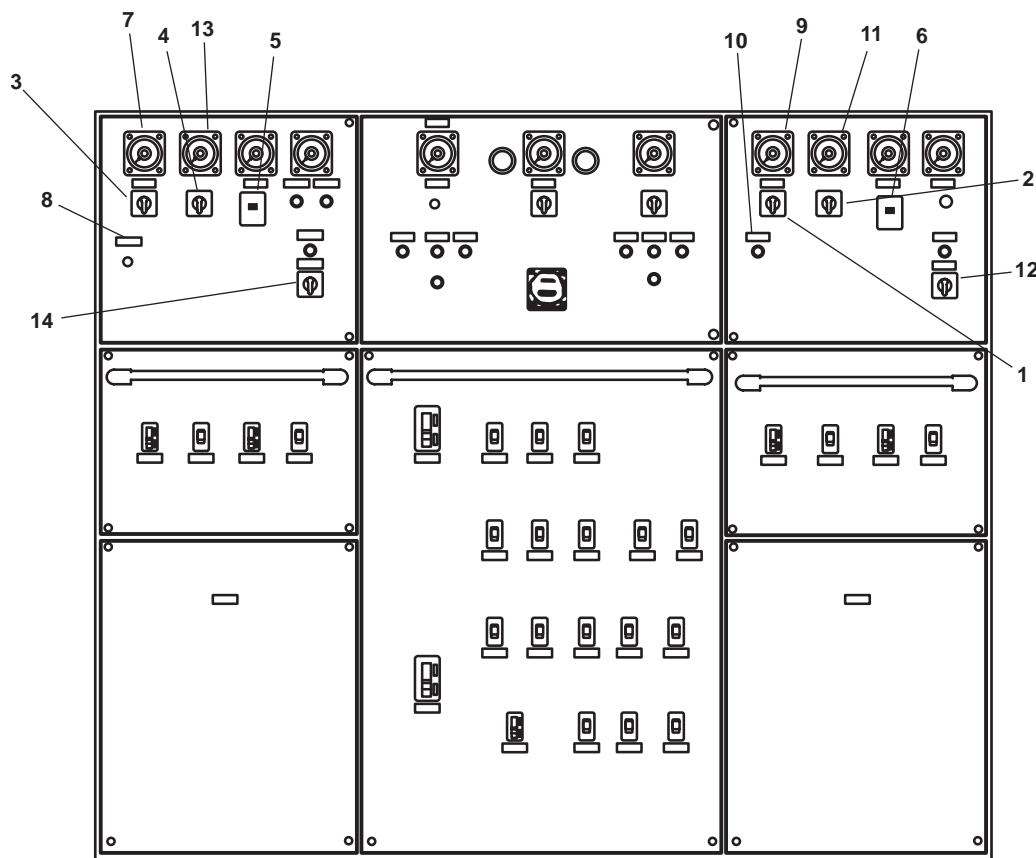

Figure 1. EOS Main Switchboard
- a. Set the BUS GEN. 1 switch (figure 1, item 1) to 1-2, 2-3, or 3-1 position.
- b. Set the AC AMMETER switch (figure 1, item 2) to 1, 2, or 3 position.
- c. Set the BUS GEN. 2 switch (figure 1, item 3) to 1-2, 2-3, or 3-1 position.
- d. Set the AC AMMETER switch (figure 1, item 4) to 1, 2, or 3 position.
- e. Increase the load on SSDG 2 by positioning GEN 2 GOVERNOR RAISE LOWER control (figure 1, item 5) towards the RAISE position and GEN 1 GOVERNOR RAISE LOWER control (figure 1, item 6) towards LOWER position.
- f. Adjust voltage shown on AC VOLTS (figure 1, item 7) as necessary using GEN 2 AUTO VOLT RHEO. control (figure 1, item 8) to maintain 440 volts.
- g. Adjust voltage shown on AC VOLTS (figure 1, item 9) as necessary using GEN 1 AUTO VOLT RHEO. control (figure 1, item 10) to maintain 440 volts.
- h. Repeat steps e-g until AC AMPERES meter (figure 1, item 11) for generator 1 reads as low as possible (near 0).
- a. Set the GEN #1 CKT BKR (figure 1, item 12) to OPEN.
- b. Adjust voltage to 440 using GEN 2 AUTO VOLT RHEO as necessary (figure 1, item 8).
- c. Adjust frequency to 60 hertz using GEN 2 GOVERNOR RAISE LOWER control (figure 1, item 5) as necessary.
- e. Increase the load on SSDG 1 by positioning GEN 1 GOVERNOR RAISE LOWER control (figure 1, item 6) towards the RAISE position, and the GEN 2 GOVERNOR RAISE LOWER control (figure 1, item 5) towards the LOWER position.
- f. Adjust voltage shown on AC VOLTS (figure 1, item 9), as necessary, using GEN 1 AUTO VOLT RHEO. control (figure 1, item 10) to maintain 440 volts.